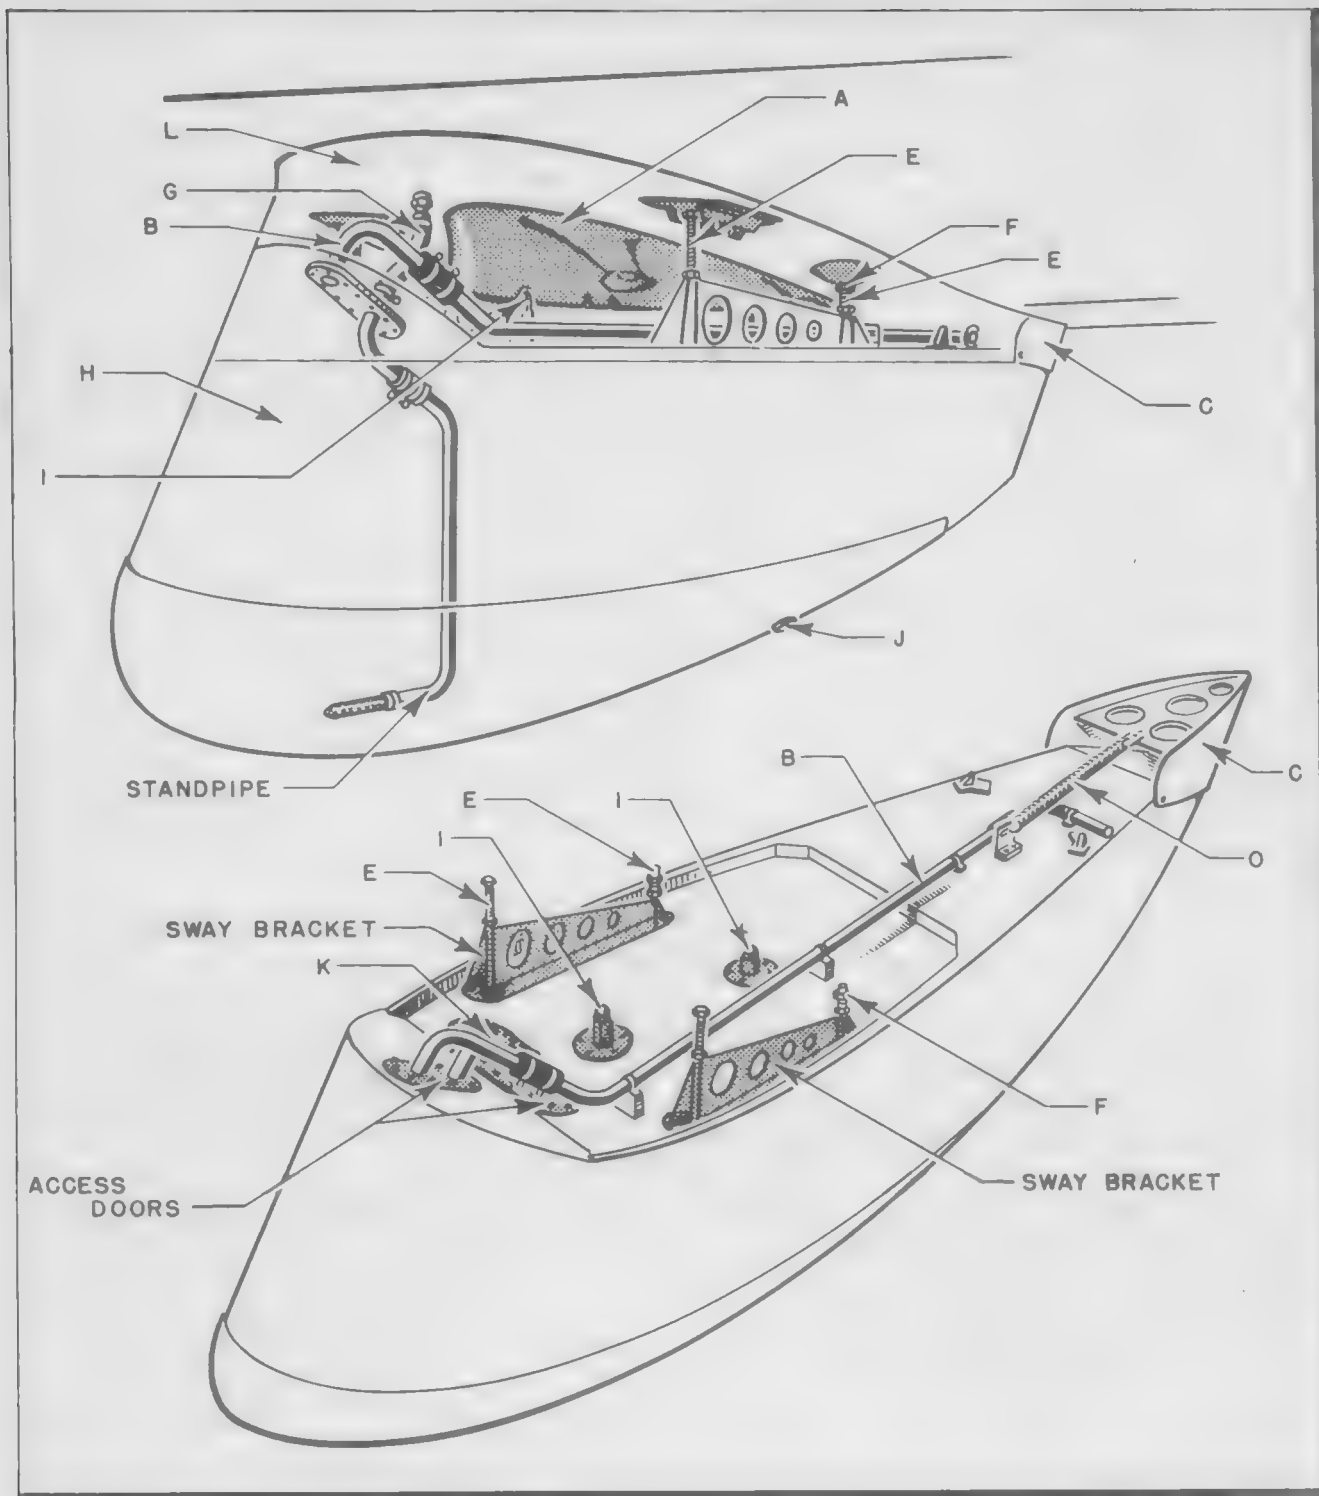

Figure 16 - Ferrying Tank Installation Diagram
(1) Check bomb release racks for proper operation.
(2) Ascertain that the standpipe is installed in the tank properly. This inspection is accomplished by removing the small door on the forward end of the tank.
(3) Make sure that all fuel has been drained from the tank.
(4) The letters A, B, C, etc., preceding each instruction item below correspond to those shown in figure 16.